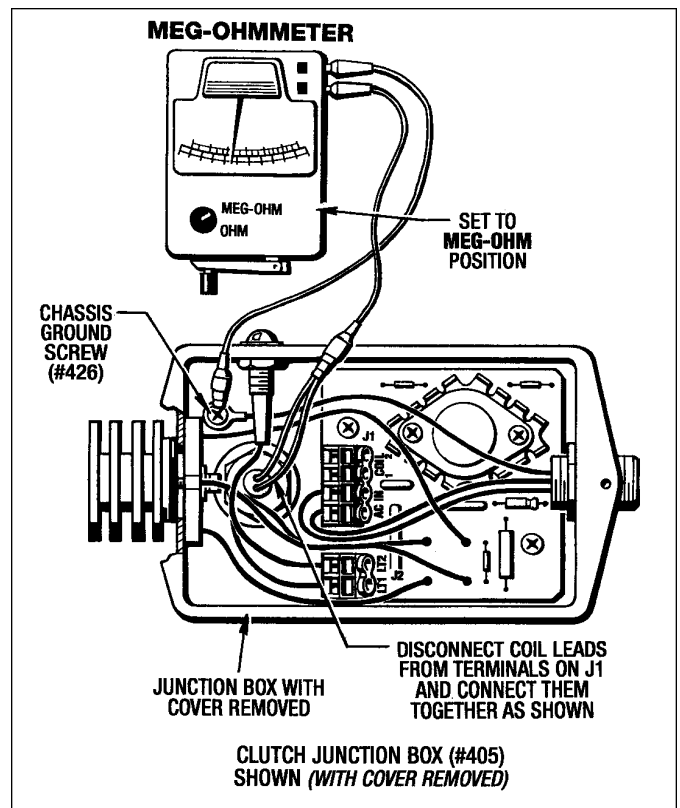

Figure 6.2 - Coil Current Leakage Testing
Connect (1) alligator clip to both Coil Leads and the other one to Chassis Ground. (See Figure 6.2)